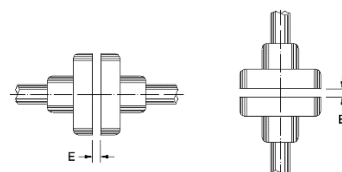

Figure 4.14: Axial clearance of the coupling (E)
Align the shaft ends carefully, and, whenever possible, use flexible coupling, leaving a minimum clearance (E) of 3 mm between the couplings, as shown in Figure 4.14.